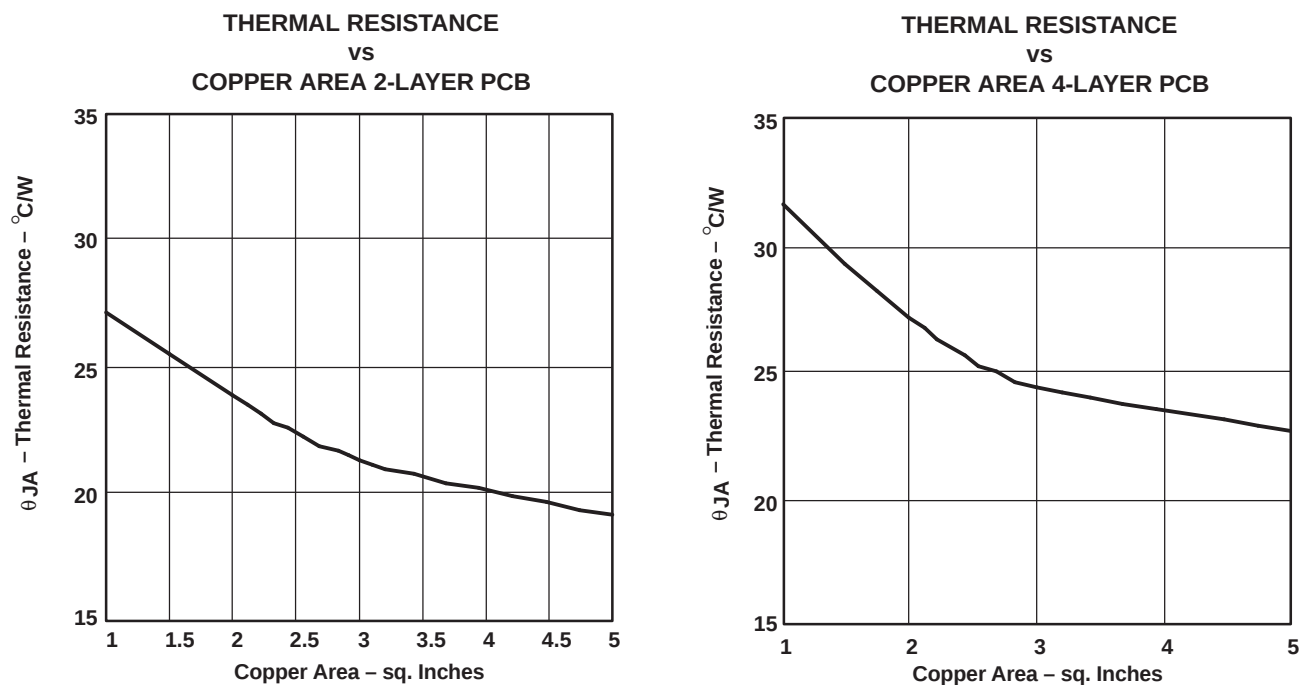
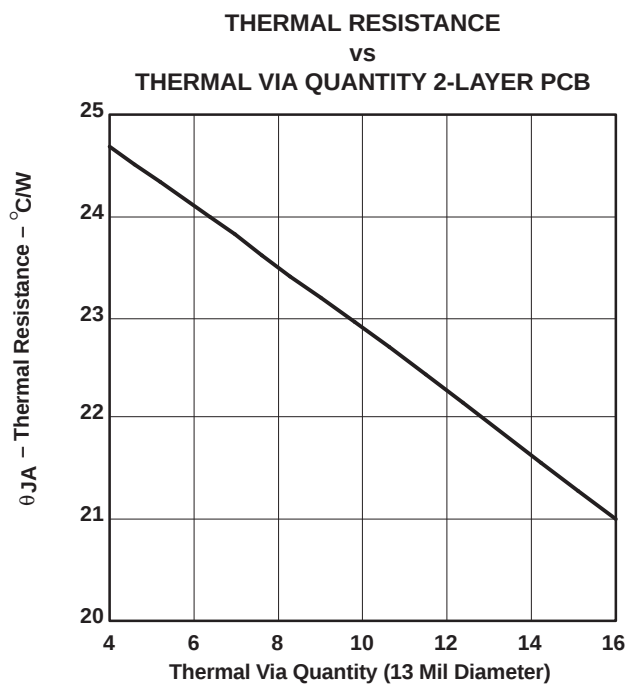

Figure 47. Thermal Resistance
Figure 48. Thermal Resistance
$\theta_{\text{JA}} = 19^\circ\text{C/W}$ 2-Layer PCB, 5 sq. in. copper, see Figure 47. (8)
Figure 47 and **Figure 48** show the results of several thermal experiments conducted with the TPA3004D2. Both figures show that the best thermal performance can be achieved with more copper area for heat dissipation and an adequate number of thermal vias.
Figure 47 shows two curves for a 2-layer and 4-layer PCB. The 2-layer PCB layout was tightly controlled with a fixed amount of 2 oz. copper on the bottom layer of the PCB. The amount of copper is shown on the x-axis. Nine thermal vias of 13 mil (0.33mm) diameter were drilled under the PowerPad and connected to the bottom layer. The top layer only consisted of traces for signal routing.
Figure 48 shows the effect of the number of thermal vias drilled under the PowerPad on the thermal performance of the PCB. The experiment was conducted with a 2-layer PCB and 3 square inches of copper on the bottom layer. For the best thermal performance, at least 16 vias in a 4x4 pattern should be used under the PowerPad. Refer to the TPA3004D2 EVM User's Manual, SLOU115, for an example layout with a 4x4 via pattern. PCB gerber files are available at request.